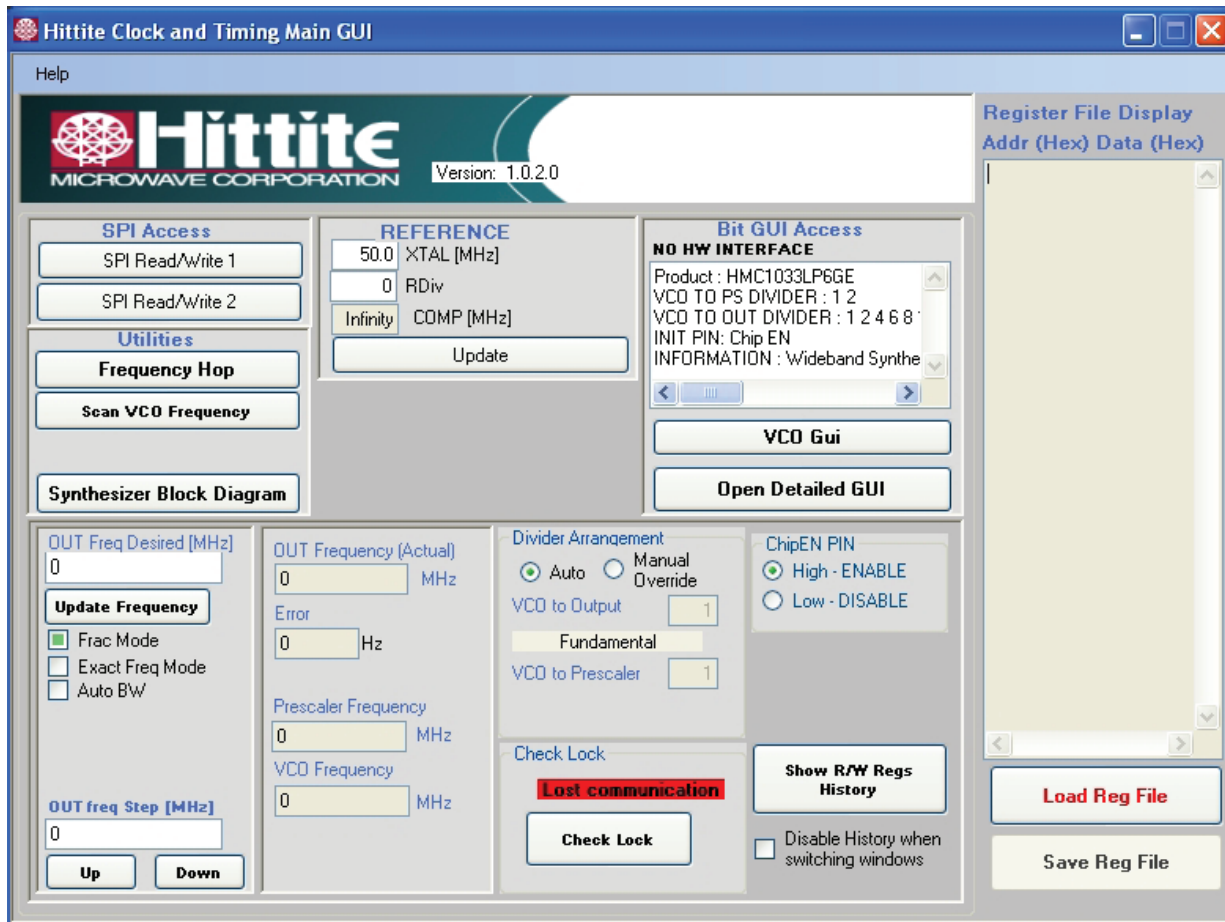

Figure 3. Clocks & Timing ICs Main Control GUI
2. Press “Done”, the Hittite PLL Evaluation Software GUI shown in Figure 3 will appear.